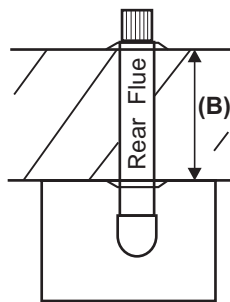

Fig. 14
4.6 FIT THE FLUE - Figs. 14, 15